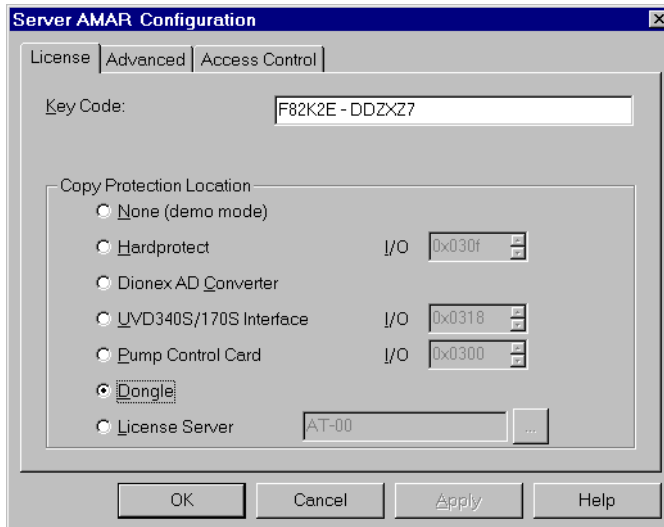

Figure B-3. Server Configuration Properties
4. Select **Edit > Properties** to open the Server Configuration properties dialog box (see Figure B-3). Click **Dongle** and then enter the **Key Code** provided with the Chromeleon license. Click **OK**.